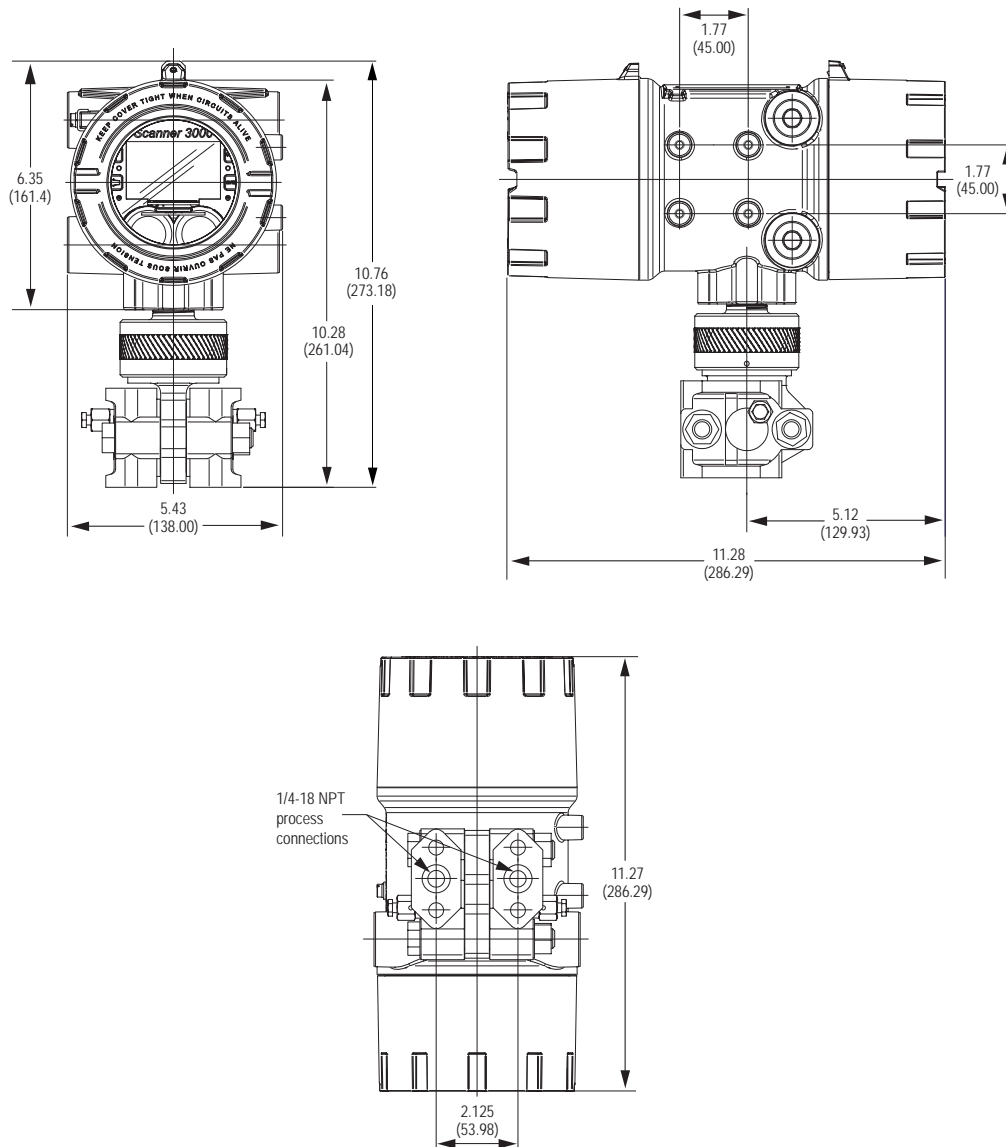
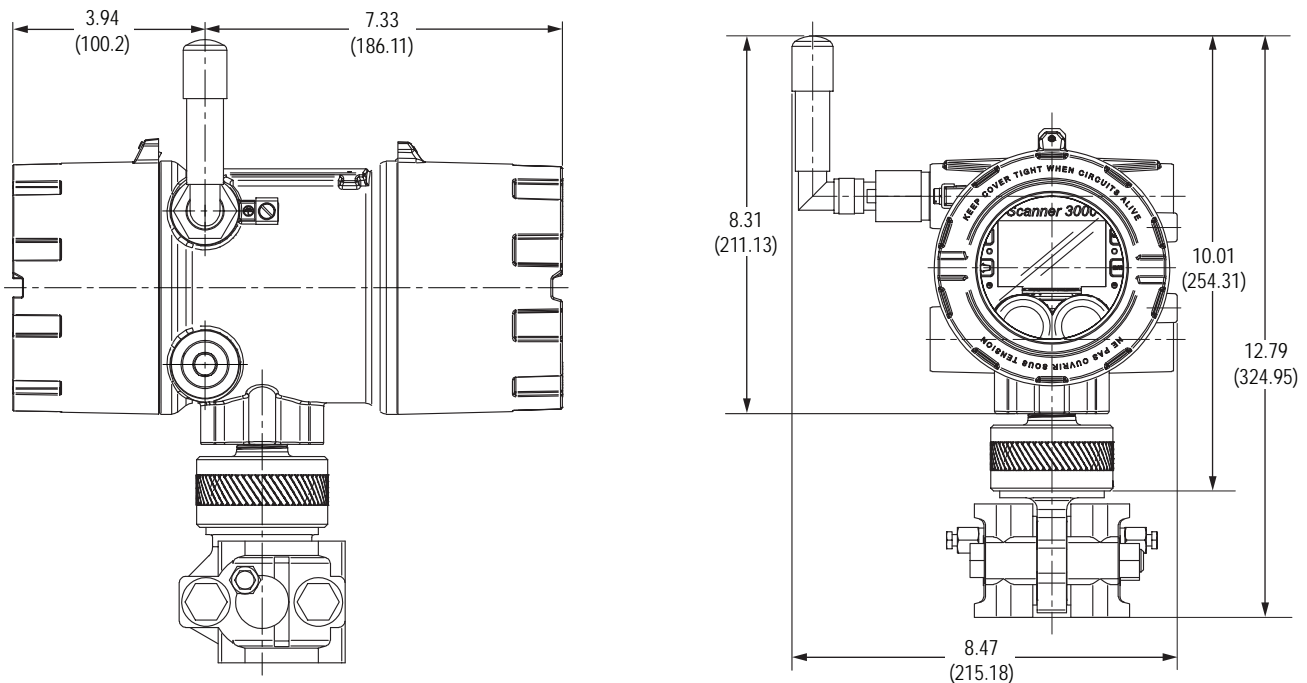

Figure 2.1—QRATE Scanner 3100 with MVT, direct-mount; dimensions shown in inches (mm)
Figure 2.3—Wireless QRATE Scanner 3100 with MVT and direct-mount antenna; dimensions are shown in in. (mm)
- **Direct-mount to an orifice or cone type differential pressure meter.** The MVT shown in Figure 2.1 (with antenna in Figure 2.3, page 29) may be connected to the pressure taps with stabilizers or a heavy wall nipple with adapter flanges, and a 5-valve manifold. A bottom-port MVT is recommended for gas measurement; a side-mount MVT is recommended for liquid measurement.
The QRATE Scanner 3100 WiFi (with internal or external antenna) and wireless modules connect to their respective antennas inside of the enclosure. A remote antenna and antenna cable are optionally available if obstructions to reliable signal transmissions are present. Figure 2.3 shows installation dimensions for the device equipped with the direct-mount, right-angle antenna supplied by Sensia.